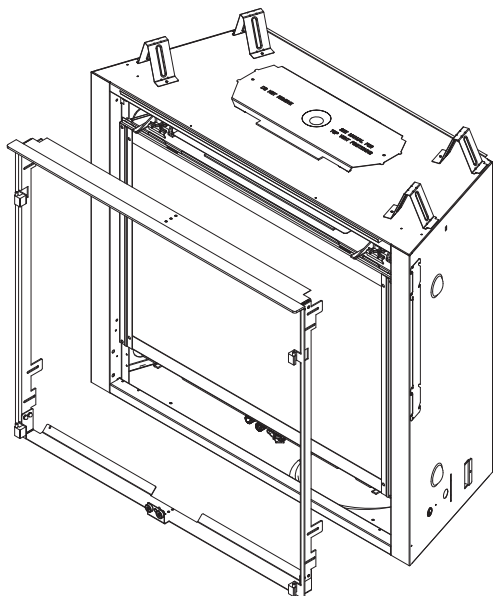

Figure 12. SL Frame Installation
5. Place frame into fireplace opening. See Figure 12. Use caution when placing frame into fireplace surround, so that Metal Clips installed in Step 4 are not pushed out of location.